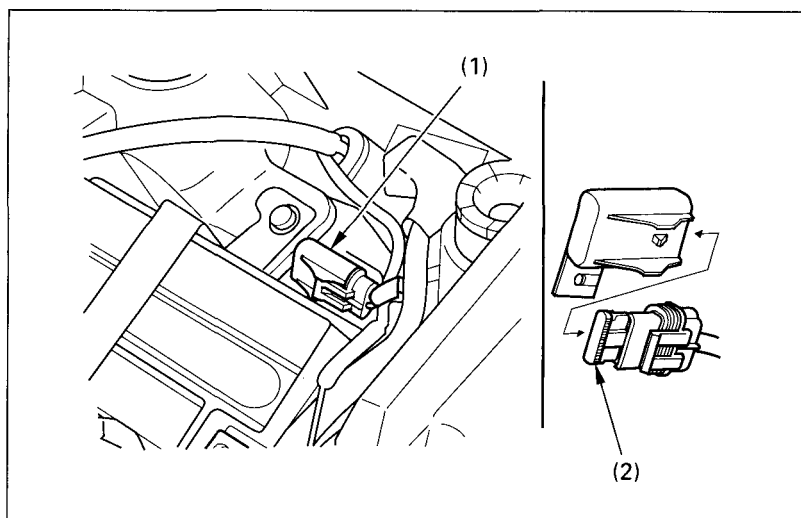

Fig. 4-18
As illustrated in Fig. 4-18, the fuse (2) is located in the battery compartment.
3. Remove the fuse holder assembly (Fig. 4-18 ).